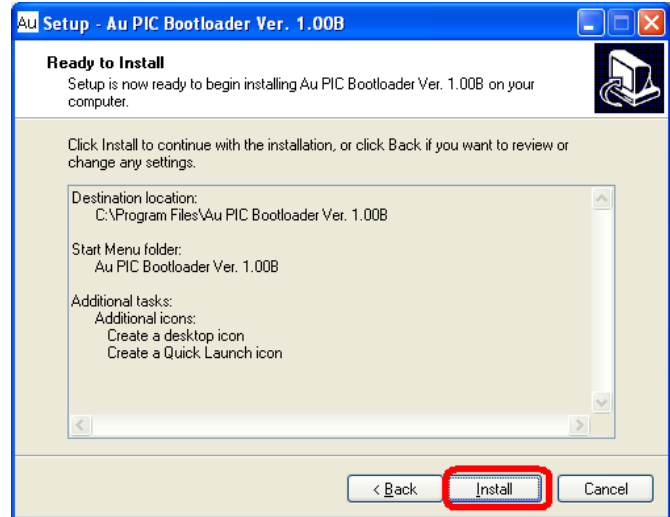

Figure C-7
7. "Ready to Install" window shows up. Click "Install" (Figure C-7).